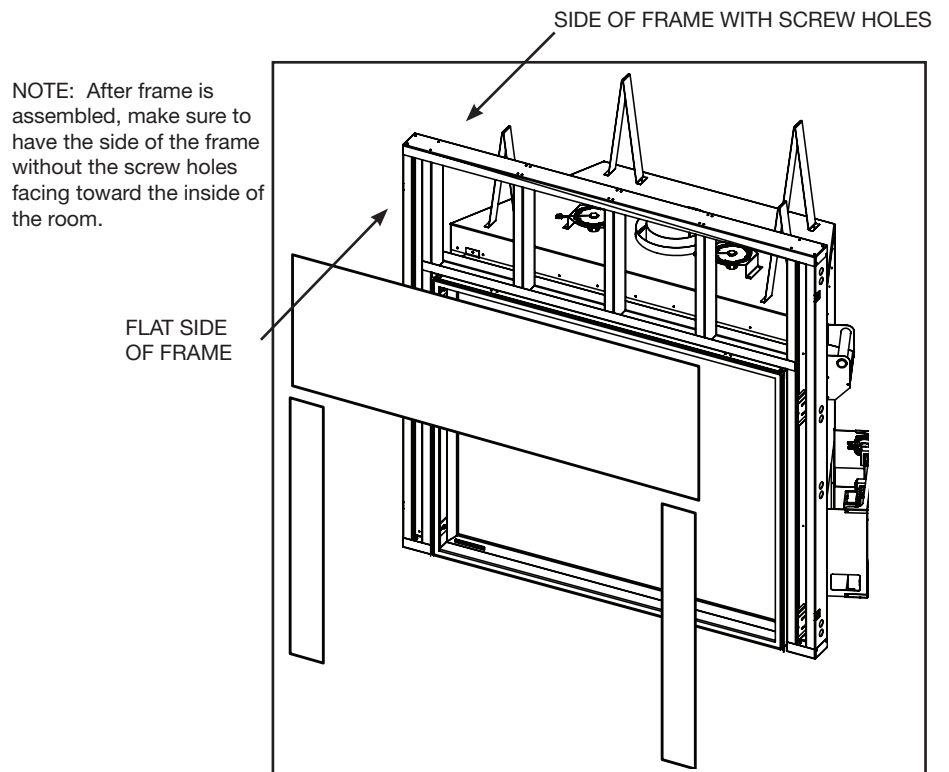

Figure 17: Aligning the frame so that the flat surface is facing outward.
- Use drywall screws to install the concrete board (Figure 17).